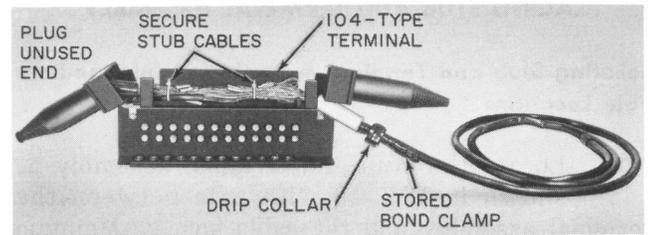

Fig. 15—Completed Splice—104-Type Cable Terminal
- (3) Perform splicing operation as required. Bring preferred count binder group to front of partition before splicing stub when using 104-type terminal. Secure 1A1 or 1B1 terminal stub to 104- or 105-type cable terminal stub (Fig. 15).
- (4) Form drip collar of two laps of B sealing tape covered with two laps of vinyl tape. Locate on inner side of bond clamp inside cable boot (Fig. 15).